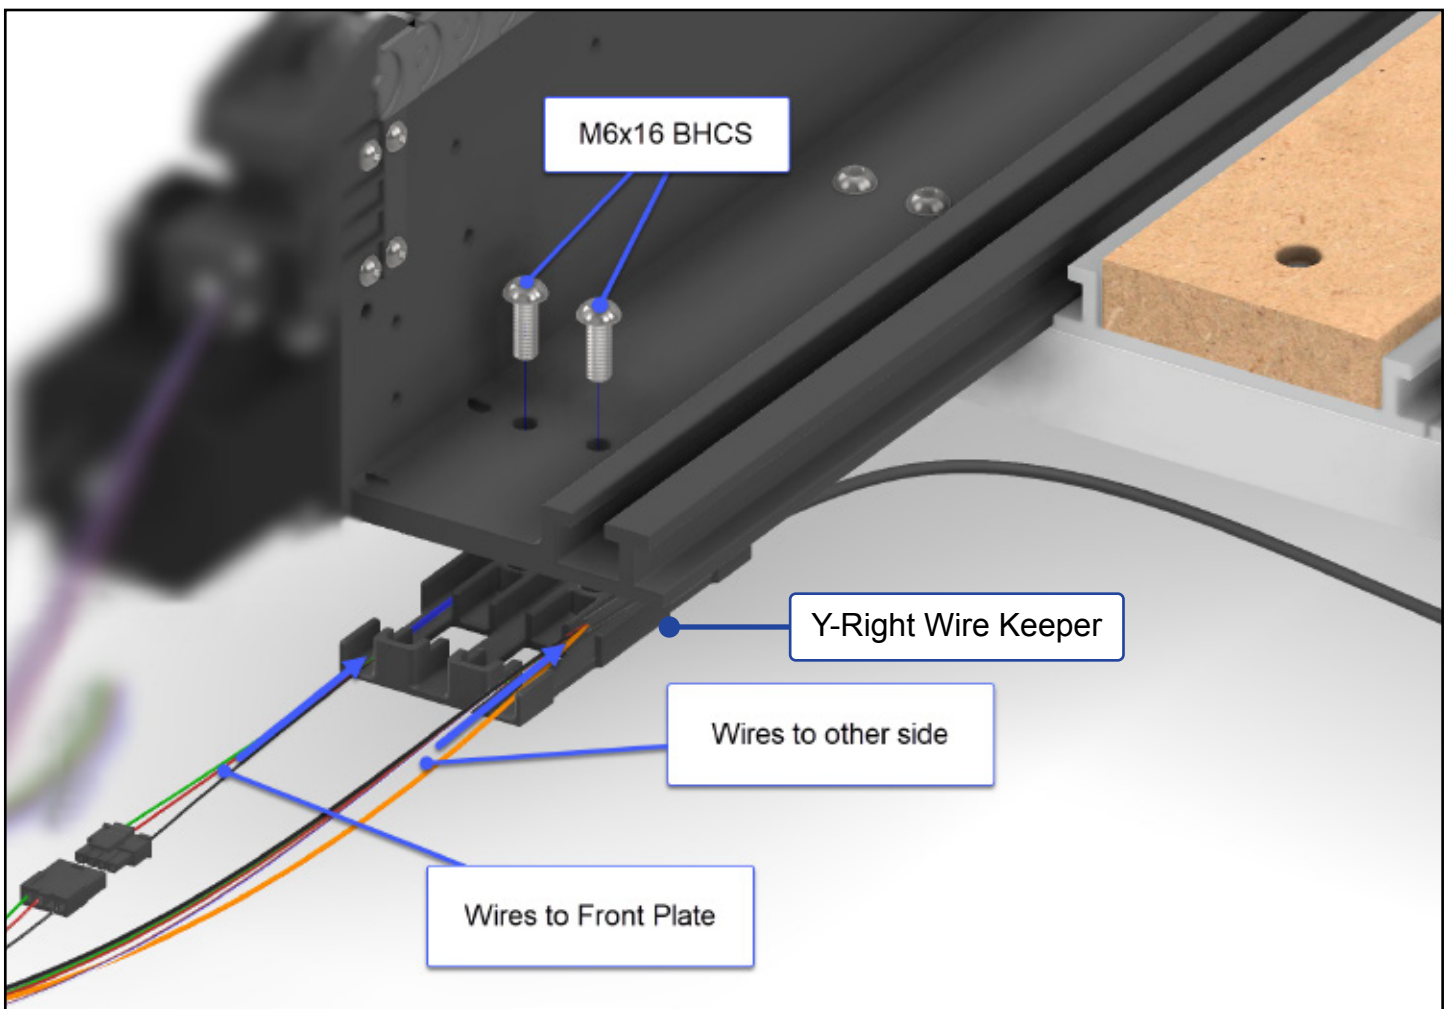

Figure 4-6
2. Set the front plate extension cable into the wire keeper. See **Fig. 4-6**.
3. Slide the wire keeper under the back edge of the Y-Right assembly. See **Fig. 4-6**.
4. Use a 4mm hex key and two (2) M6×16mm BHCS to attach the wire keeper to the Y-Right assembly. Fully tighten.